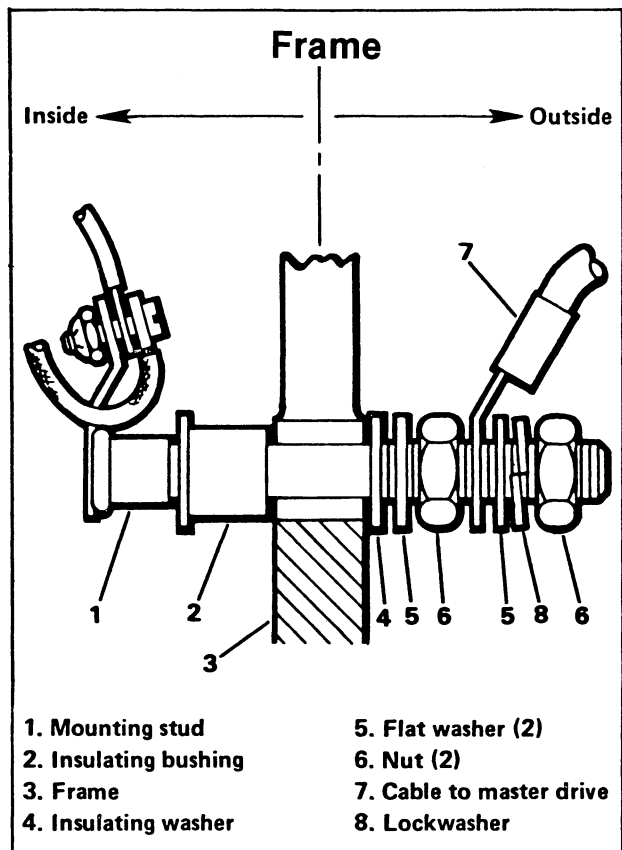

Figure 8-39. Motor Terminals
3. See Figure 8-39 for correct stacking of wire mounting bolt hardware (24), (25).